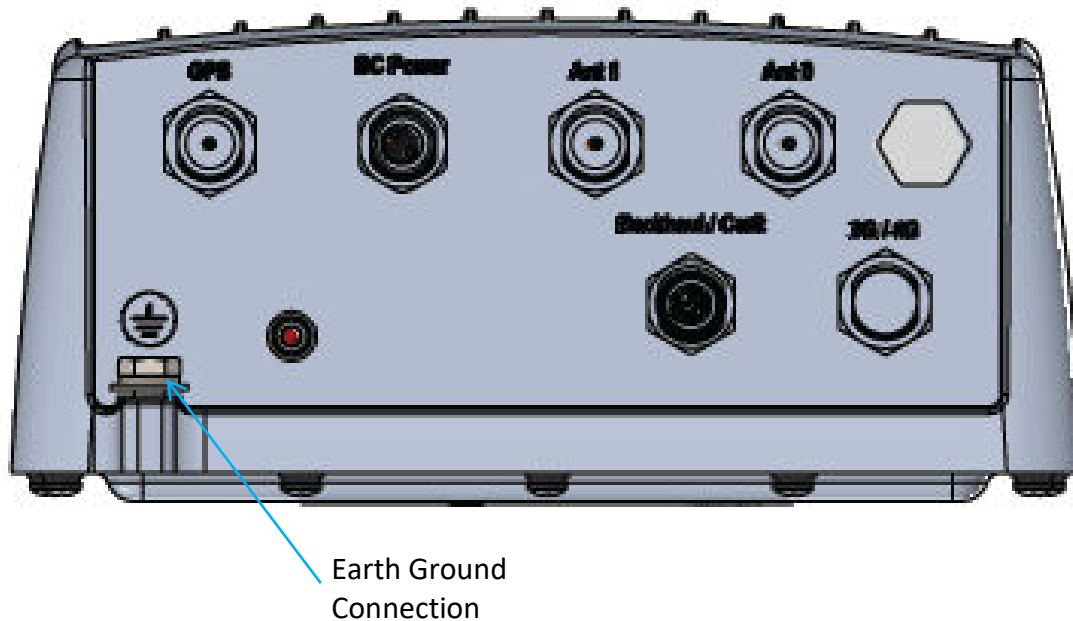

Figure 4: Earth Ground Connection Location
The Kona HazLoc Mega Gateway requires a permanently connected Protective Earth (PE) Ground conductor. The Protective Earth Ground connection is made through a 1/4 x 0.63" on center double hole lug to the ground termination point illustrated in Figure 4. The required ground cable gauge is #10 AWG minimum.